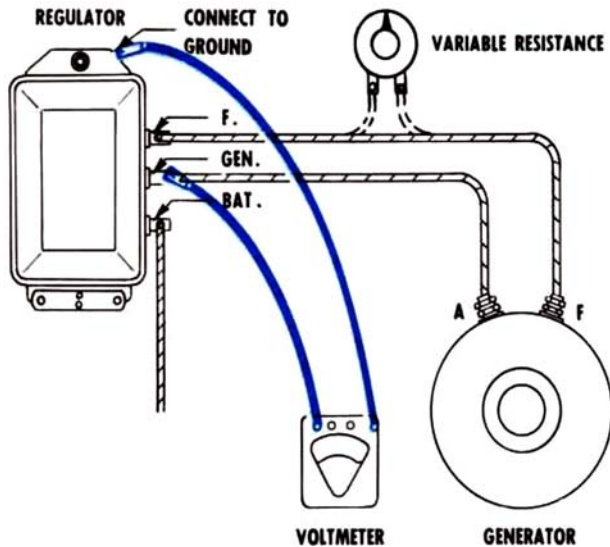

Figure 10 – Voltmeter connections to check cutout relay closing voltage. Variable resistance may be connected as shown for cycling generator.
Method B - Connect a variable resistance into the field circuit, as in Figure 10. Turn out all resistance. Operate generator at specified speed. Slowly increase (turn in) resistance until generator voltage is reduced to 2 volts on a 6-volt system, 4 volts on
- (1) Connect regulator to proper generator and battery. Connect voltmeter between the regulator "GEN" terminal and ground (Fig. 10).
Method B - Make connections as in Step 1, but in addition add a variable resistor connected into the field circuit (Fig. 10). Use a 15 ohm-25 watt resistor for 6-volt systems, or 25 ohm-25 watt resistor for 12- and 24-volt systems. Operate generator at medium speed with variable resistance turned all in. Slowly decrease (turn out) the resistance until cutout relay points close. Note closing voltage. Slowly increase (turn in) resistance to make sure points open.